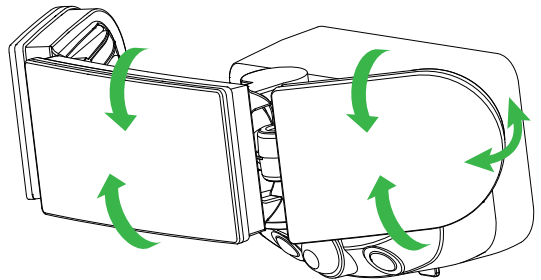

Figure 5
3. Adjust the angle and direction of the LED light panels as desired (see **Figure 5**).